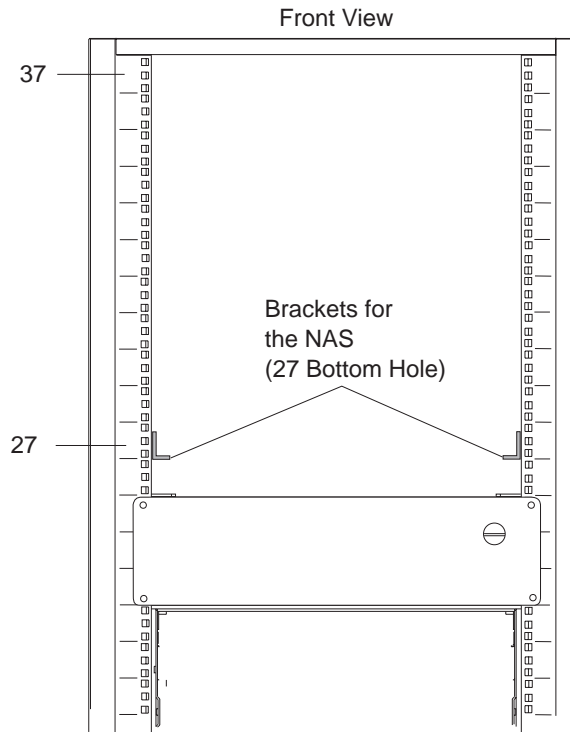
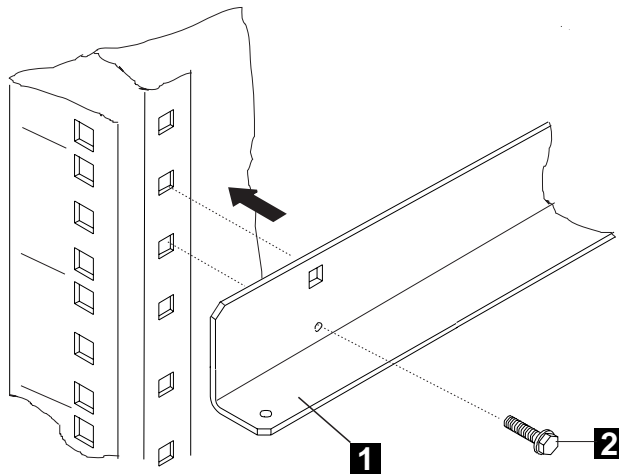

Figure 1-5. Bracket Positioning for the NAS in a 37 U Rack
Figure 1-6. Brackets Installation
1. ____ Install the brackets (PN 43G3111) for the NAS if not already done. Refer to Figure 1-5 for brackets positioning and Figure 1-6 for brackets installation.